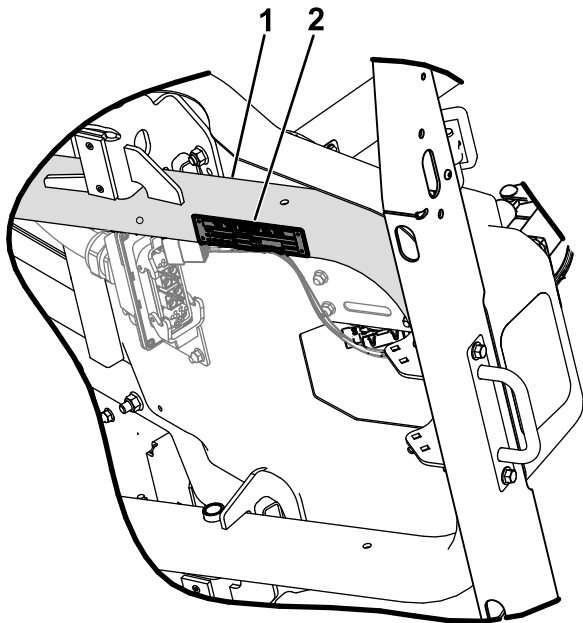

Figure 36
3. Wipe down the bottom of the frame and serial plate with an alcohol-based wipe (Figure 36).